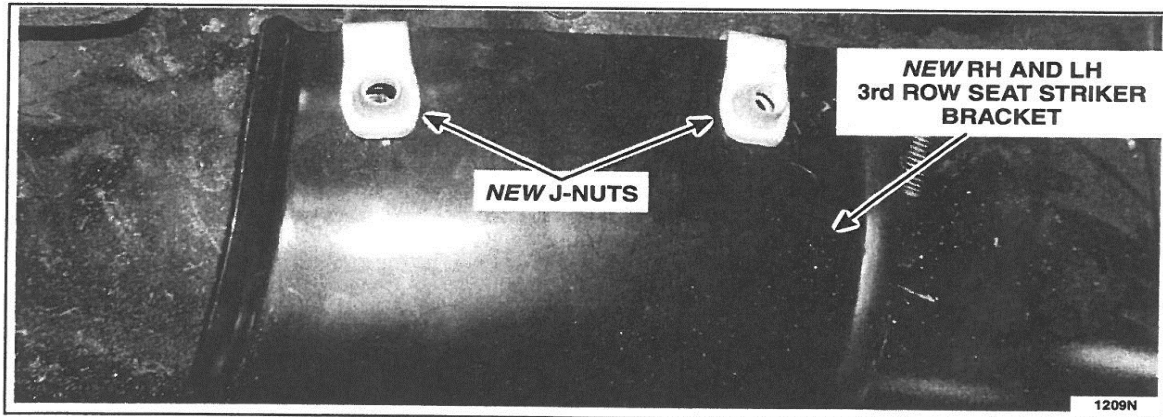

FIGURE 21
39. Slide the *new* J-nuts onto each of the four *new* RH and LH 3rd row seat striker bracket upper mounting attachment locations. See Figure 21.